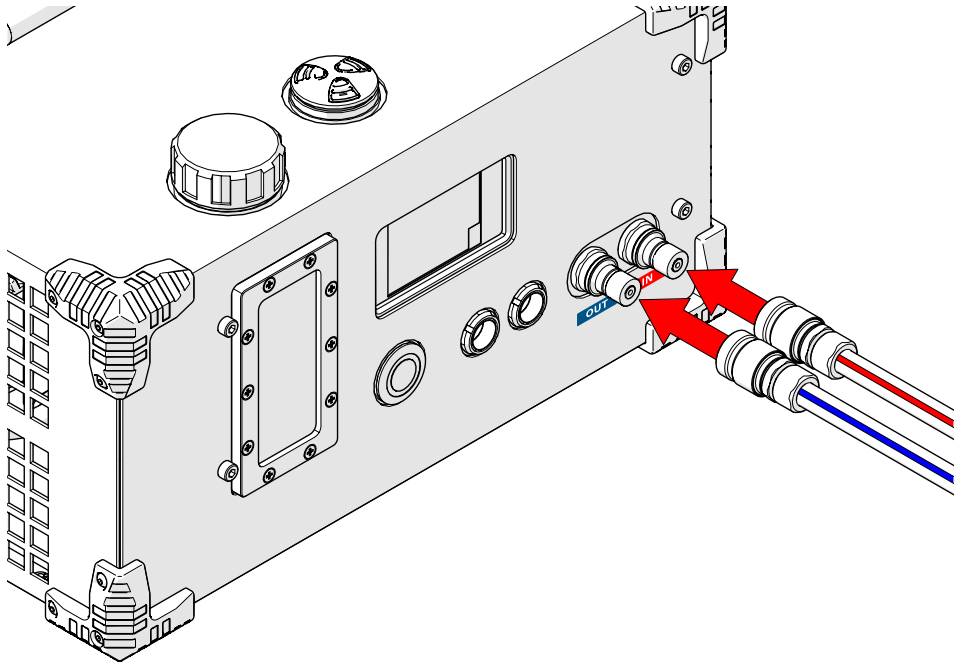

Fig. 13 - Connect red hose to IN port, connect blue hose to OUT port
- ▶ The RED HOSE connects to the IN PORT (Fig. 13).
- ▶ The BLUE HOSE connects to the OUT PORT (Fig. 13).